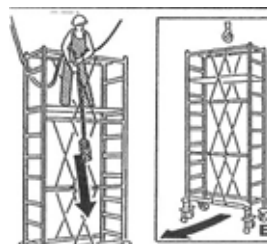

fig.107
11. Lower the push-button panel from the scaffolding and move the scaffolding away. (fig.107)